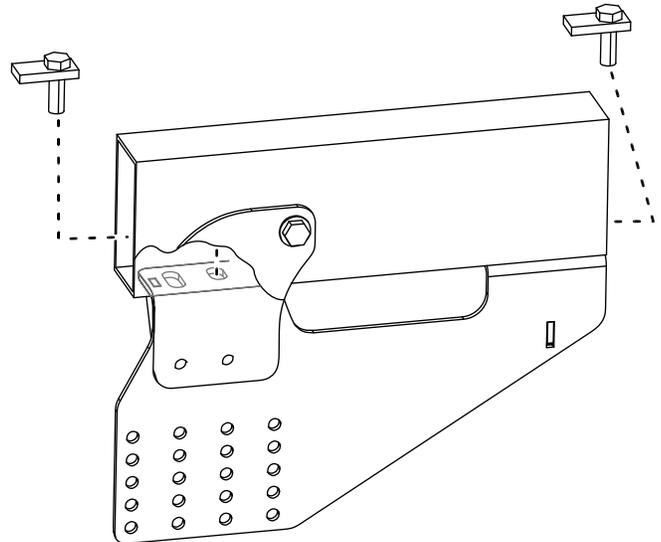

Figure 8
5. Slide 2 bolt and shim sets into each of the vehicle frame rails and insert them through the large holes that align with the sideplates (Figure 8).